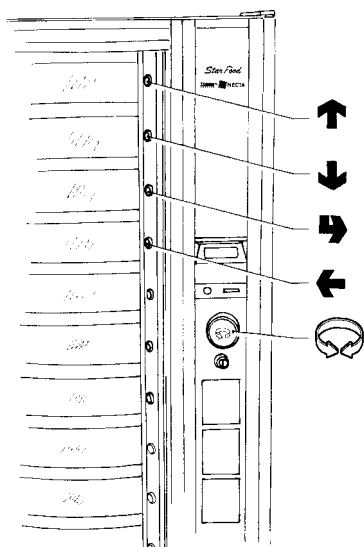

Fig. 8
- The first four selection buttons, which in maintenance and programming mode have the following functions (see Fig. 8):